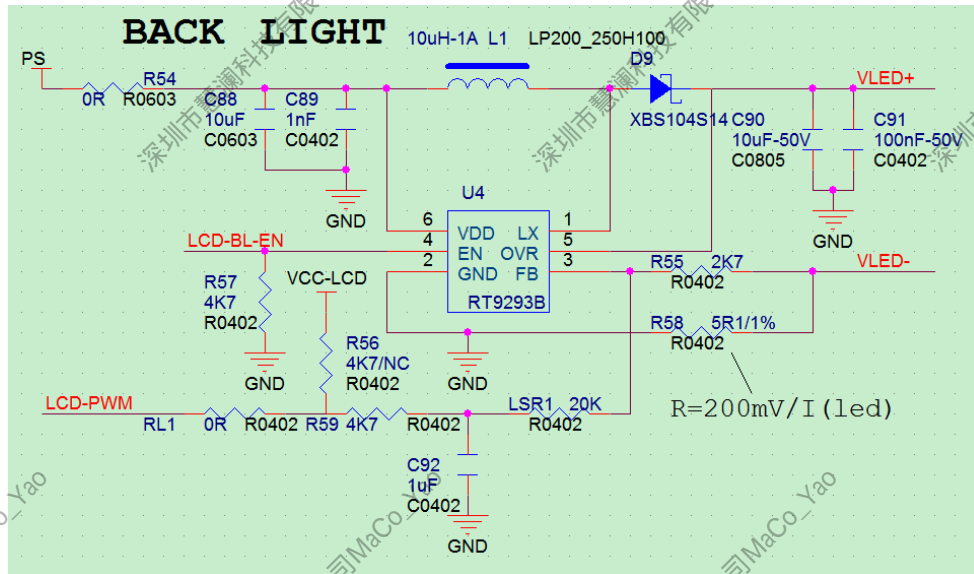

Figure 2-50 LCD Backlight Circuit Design
- The grounded current-limiting resistors of FB end for the backlight IC need be 1% precision and the selected package needs to meet the power demand of the circuit. As shown in Figure 2-50.